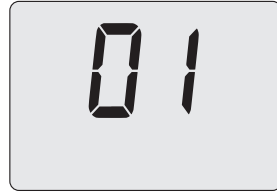

Fig. 8.28
- Press the keys 14, until the value of parameter P05 on the LCD display (Fig. 8.28).